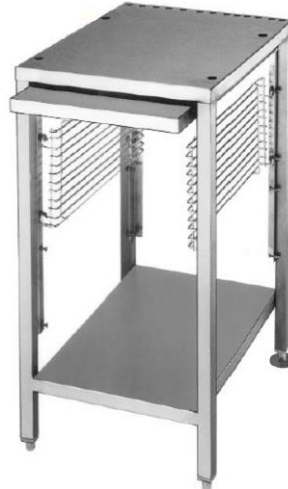

Figure 3-1
- If a satisfactory counter location is not available, use a Model UNISTAND34 Equipment Stand. This stand, illustrated in Figure 3-1, is designed to support a SteamCraft Ultra 5 Steamer, and meets all necessary support and safety criteria.